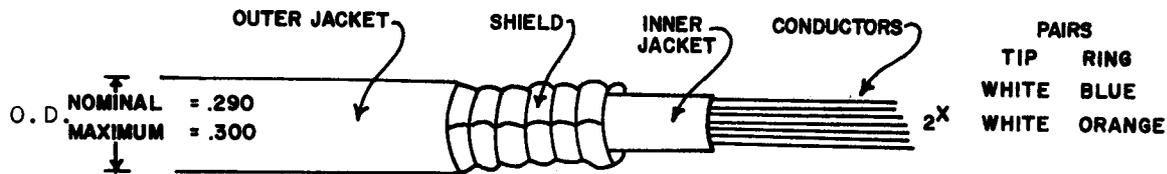

FIGURE 1
2.06 Figures 1, 2 and 3 are of the two, three and six pair Buried Distribution Wires respectively.